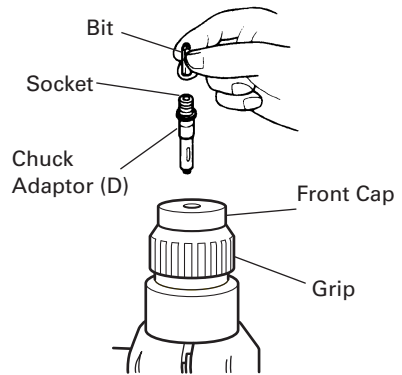

Fig. 9
4. When driving machine screws (Fig. 9)
- **Do not attempt to use the rotary hammer in the rotation and striking function with chuck adaptor (D) and bit attached.**
5. When driving wood screws (Fig. 9)